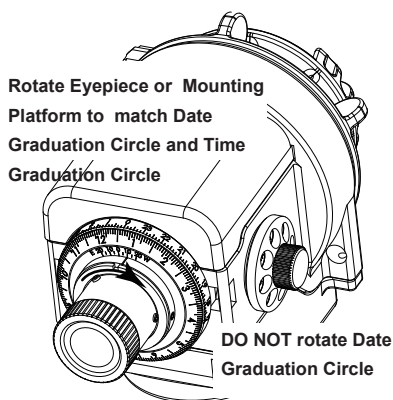

Fig 31
5. Match the **Date Graduation Circle** with your observing time by turning the eyepiece/ Mounting Platform. Please **DO NOT** rotate **Date Graduation Circle** directly at this step. For example, if your observing date is March 4 and observing time is 8:00PM (Standard Time, that is Daylight Time -1 if applied), then hold and turn the mounting platform until the 2nd scale mark of March is aligned with the "20" on the **Time Graduation Circle**, which represents 8:00pm(Fig 31).